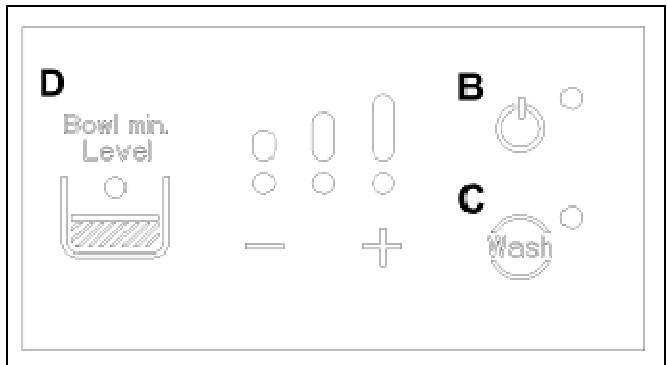

Fig. 35
- Select the desired mode of operation from the control panel (fig. 35)
- To activate the cooling system in cooling mode push the power button B on the control panel (fig. 35).
- To change the consistency of the mix, press the + and – keys of the control panel (fig. 35). Pressing + will cause the number of LEDs lit to rise and consequently the consistency setting increases. Pressing – instead will decrease the number of LEDs lit and reduce the mix consistency (fig. 35).
- To activate wash mode, push the button WASH button (button C in fig. 35) after switching off the cooling system by pressing the power button B and making sure that its LED is off.